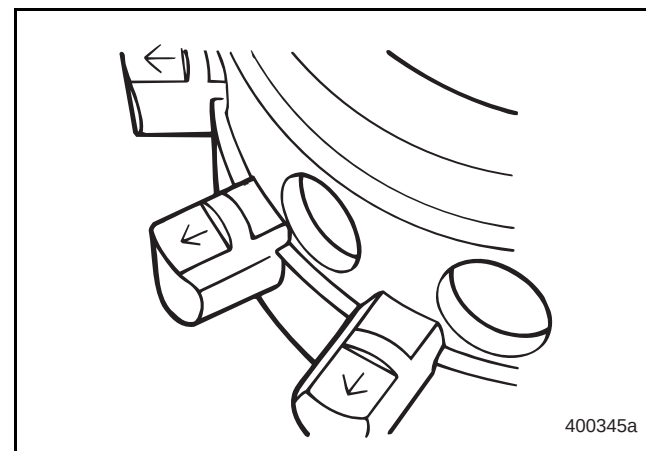

Figure 150 — Install Wedges with Alpha Character or Arrow Pointing Out
4. Install a matched set of 24 wedges from inside the cage, making sure the alpha character (or arrow on early production carriers) is pointing outward as shown in Figure 150. The alpha character or arrow must be visible on each wedge from outside of the cage.